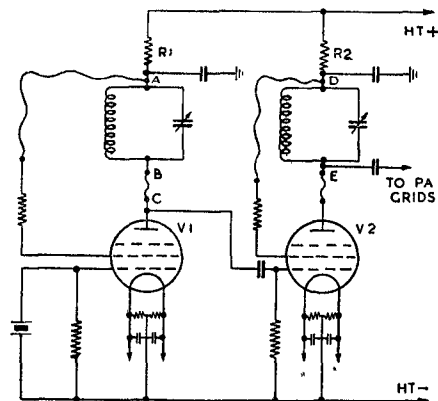

FIG. 101
- (i) *Normal doubler operation.* 3–15 Mcs. (See fig. 101.)